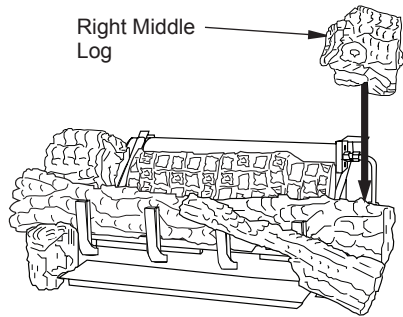

Figure 30 - Installing Right Middle Log
6. The right middle log (18" D-067, 24" & 30" D-041) has a groove on the bottom to sit on the chassis and has to sit on the tab on the back of the right front. The right middle log should have a recess area that fits around the ramp log as shown in Figure 30.